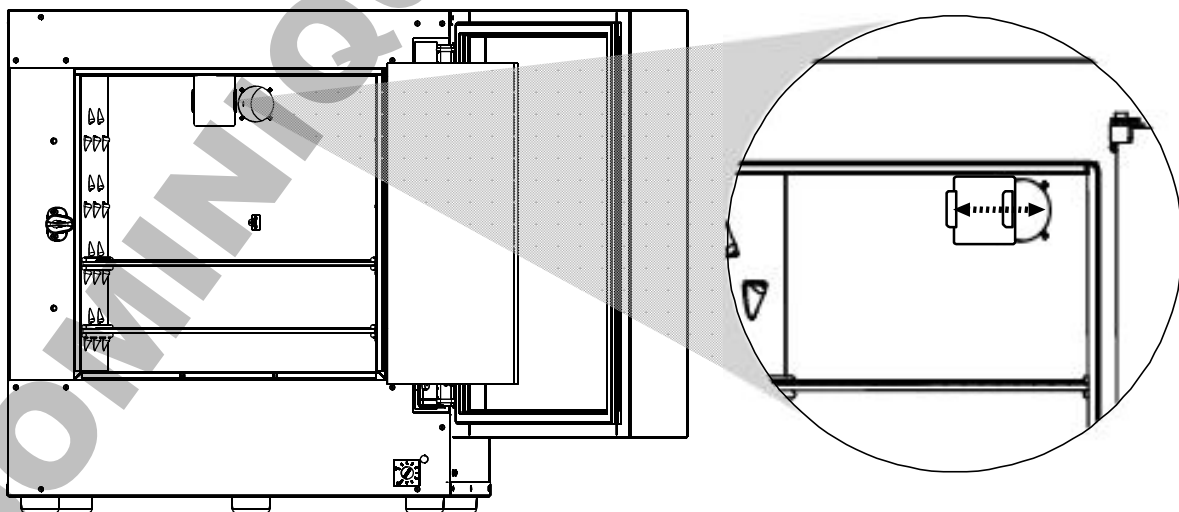

Figure 6: Adjusting the air exchange
1. Shift the ventilation flap so that no condensation inside the AL01-06/07 takes place (see Figure 6).